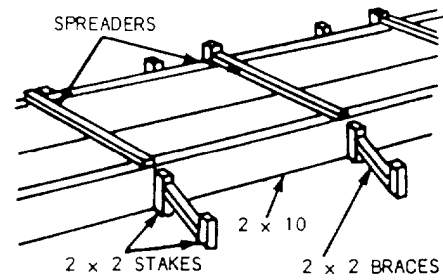
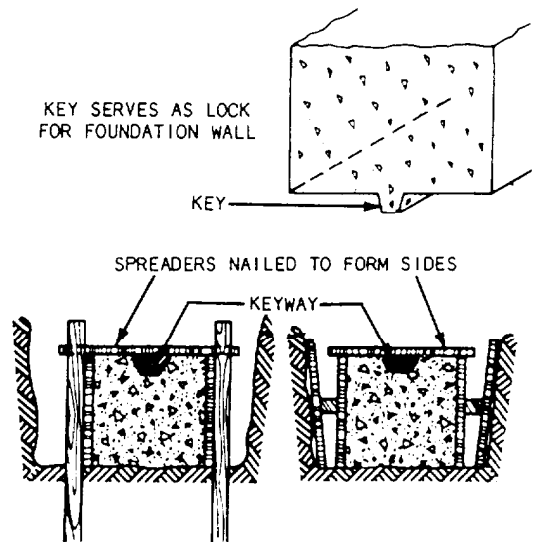

Figure 7-4.-Typical footing form.
Figure 7-5.-Methods of bracing bearing wall footing forms and placing a keyway.
**BEARING WALL FOOTINGS.**— Figure 7-4 shows a typical footing formwork for a bearing wall, and figure 7-5 shows bracing methods for a bearing